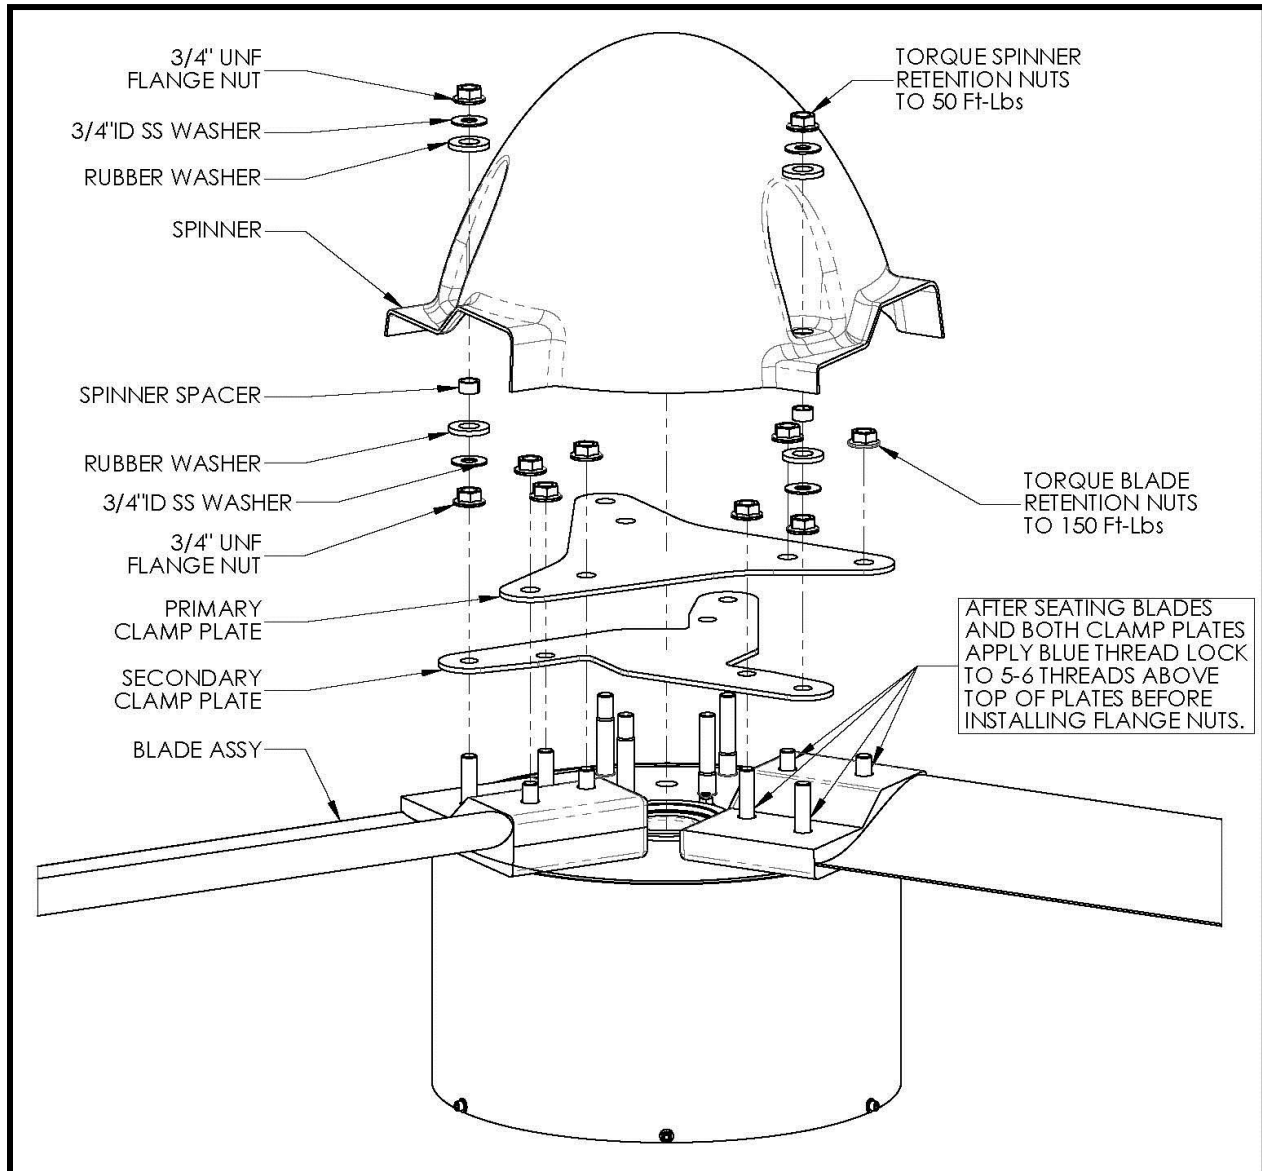

Figure 11: EXCEL Blade, Clamp Plate and Spinner Attachment
3. Attach the three blades to the powerhead as shown in **Figure 11**, with the hardware provided in the Blade and Spinner Hardware Kit (HK0003).
5. Attach the spinner to the powerhead as shown in **Figure 11**, making sure that all hardware is ordered and positioned properly. The recommended procedure is as follows:
- a. Pre-assemble a stainless washer, silicon washer and spacer in proper configuration (shown in **Figure 11**), fastened together with a small amount of silicone caulk. **Be sure the spacer is inside the silicon washer and against the stainless washer.** Be sure the inner diameters of the stainless washer and spacer are properly aligned. Do this ahead of time for three separate assemblies, and use these assemblies when you are ready to attach the spinner.